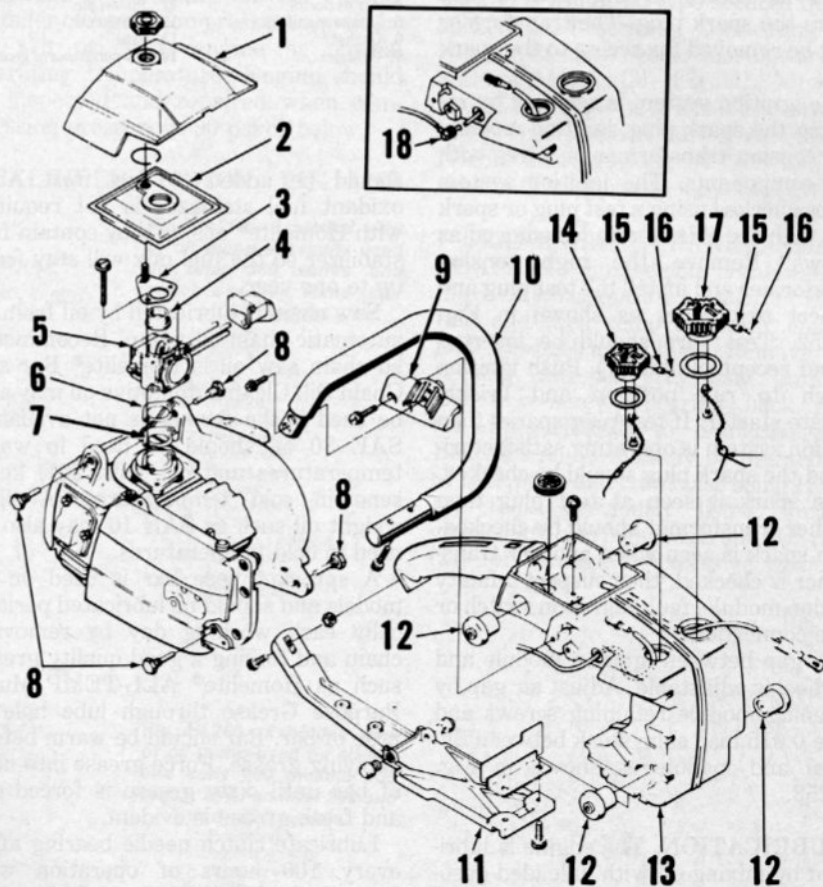
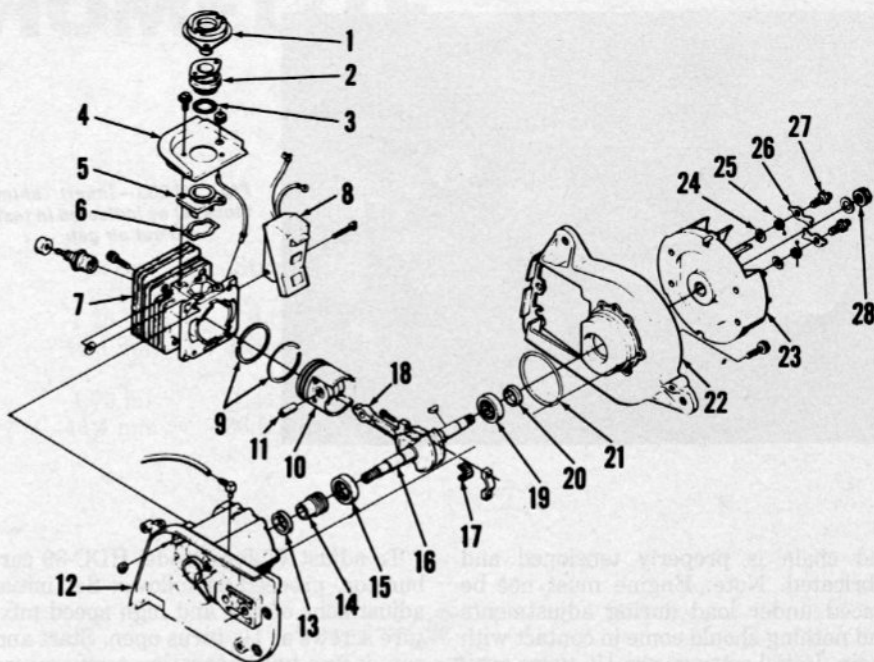

Fig. HL255—Exploded view of engine housing assembly. Some housings will use a threaded elbow fitting (18) on oil pickup tube as shown in inset.
Fig. HL257—Exploded view of engine.
A thin coat of suitable RTV silicone rubber sealant should be applied to both sides of intake gasket (6—Fig. HL257).
VIBRATION ISOLATORS. All models are equipped with cushion type vibration isolators (12—Fig. HL255) between powerhead and housing assembly (13). Isolators may be renewed as follows:
Remove air filter cover, filter, drive case cover and guide bar. Remove handle brace (11—Fig. HL255). Unscrew two screws securing carburetor and disconnect pulse line at rear of carburetor. Lift and angle carburetor and grommet on carburetor adjustment screws to gain access to two screws in floor of air box. Unscrew screws. Remove isolator pins (8) and lift upward on throttle grip and gently slide engine housing (13) free of powerhead until it is possible to remove rear isolators. Disconnect oil line (Fig. HL265) and slide housing further off powerhead for access to front isolators.
Reverse isolator removal procedure to reassemble saw. Apply a thin coat of RTV silicone rubber sealant to both sides of intake gasket (6—Fig. HL257). Carburetor pulse line should be routed around rear of air box and over carburetor control rods before connecting pulse line to carburetor. Tighten carburetor retaining screws to 45 in.-lbs. and isolator pins (8—Fig. HL255) to 80 in.-lbs. Tighten handle brace (11) screws to 45 in.-lbs.
RINGS. Cylinder can be removed using the following procedure: Remove handle bar and chain guide bar and then using procedure in VIBRATION ISOLATORS section, remove housing assembly (13—Fig. HL255) from powerhead. Remove starter housing, disconnect wires from ignition module and remove high voltage transformer coil and cylinder shield (2—Fig. HL251). Detach muffler from powerhead. Remove intake manifold. Unscrew socket head screws retaining cylinder and remove cylinder.
To disassemble crankcase, remove clutch as outlined in CLUTCH section and then remove starter housing and flywheel assemblies. Remove connecting rod as previously outlined. Unscrew screw securing back plate (22—Fig. HL257) to crankcase (12). Bearings and seals may be pressed out of back plate and crankcase using Homelite tools previously listed. Inspect crankshaft bearings, seals and "O" rings (21) for damage or excessive wear. Be